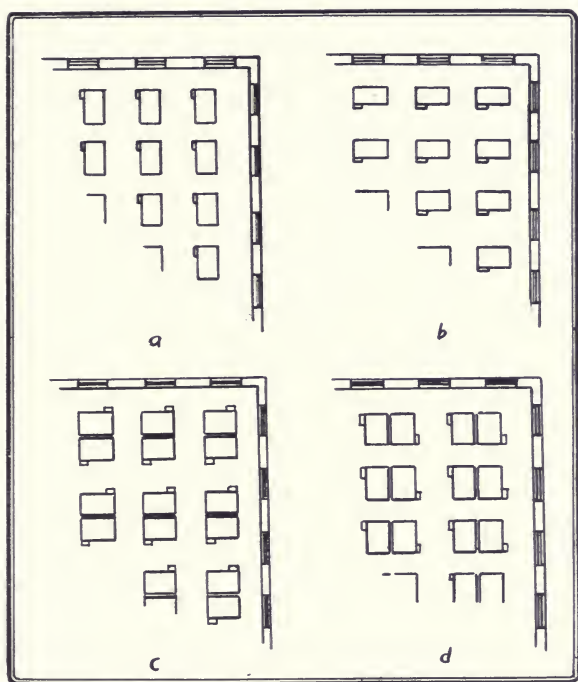

Fig. 238. Four Different Arrangements of Benches in a Shop.
*The general arrangement of the room.* The important factors are the source or sources of light, and the lines of travel. The common arrangement of benches where two sides of the room are lighted, is shown in *a*, Fig. 238. By this arrangement, as each worker faces his bench, he also faces one set of windows and has another set of windows at his left. The advantage of this arrangement is that it is easy to test one's work with the try-square by lifting it up to the light. Another arrangement, shown in *b*, Fig. 238, has this advantage, that there are no shadows on the work when it is lying on the bench and the worker is holding his rule or try-square on it with his left hand. When all the windows are on one side of the room the latter is the more advantageous arrangement.
rooms are crowded, space may be economized by placing the benches in pairs, back to back, *c* and *d*, Fig. 238. In any case, room should always be reserved for a tier of demonstration seats, facing the teacher's bench, for the sake of making it easy for the pupils to listen and to think.\*